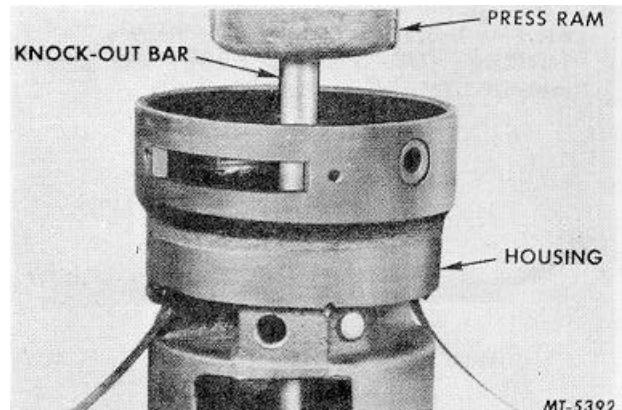

Fig. 48 Pressing Out Lower Bushing Using Knock-Out Bar
4. Place distributor housing on press and insert knock-out bar and press out lower bushing (Fig. 48).